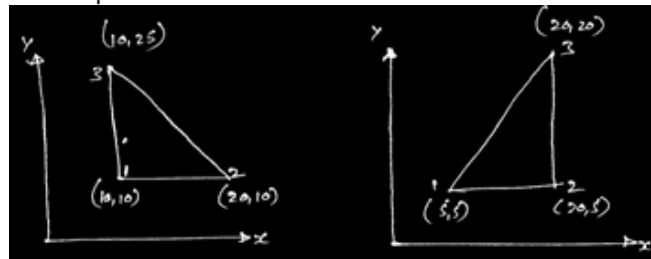

Fig: 5
5. For the elements given in Fig:5, the node displacements are given as: